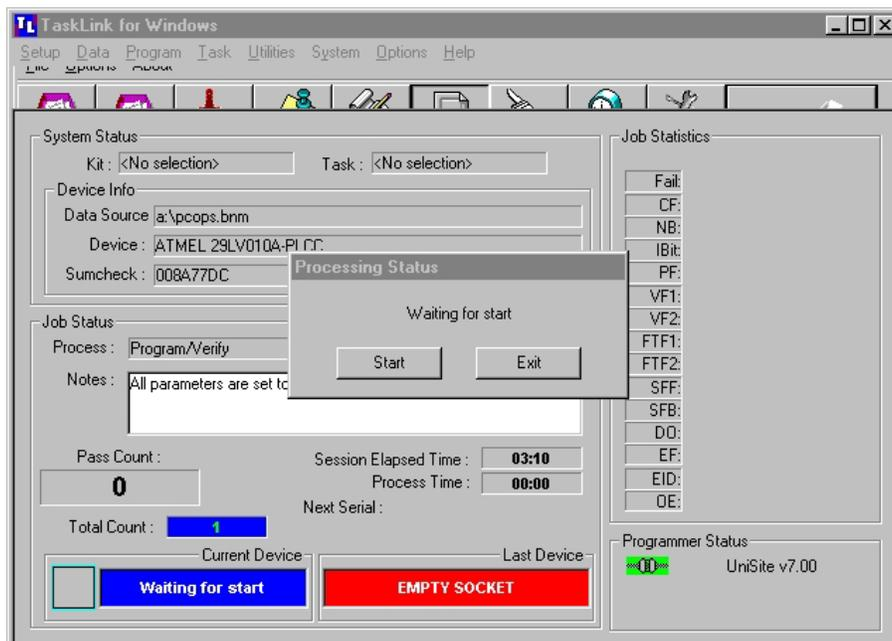

Fig. 10. TaskLink. Program/Verify Start procedure
9. Insert a chip and select the **Start** button (see Fig. 10).